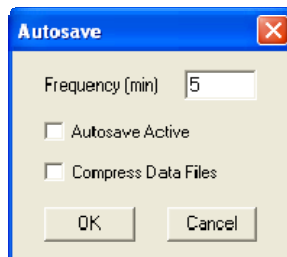

Figure 3-53 Autosave dialog box
- From the Options menu, select Autosave. The dialog box of Figure 3-53 appears.